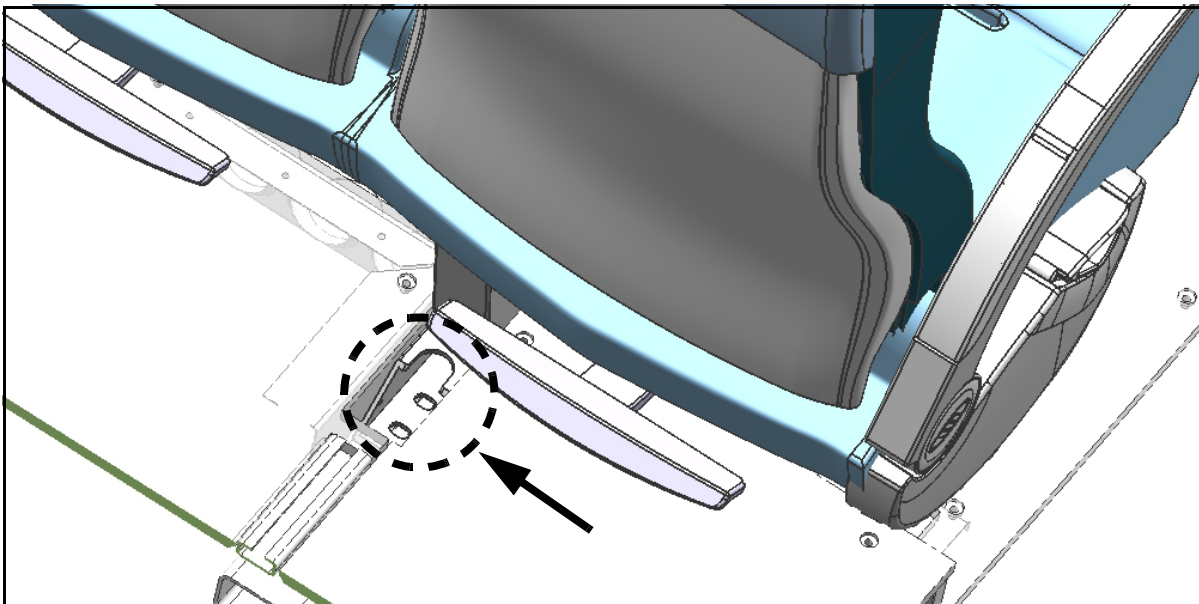

Figure 4.
10. Twist to remove the two (2) rear tee bolts from the seat track. Discard the two (2) rear tee bolts.
12. Using a drill with a 7/16 inch drill bit and the two (2) holes in the rear seat base (shown in Figure 4) as a drill template, drill two (2) holes (approximate depth of 1.00 inch) through the seat track and into the upper wall of the tubing underneath (located in the upper, front corners of baggage bay compartment #1).